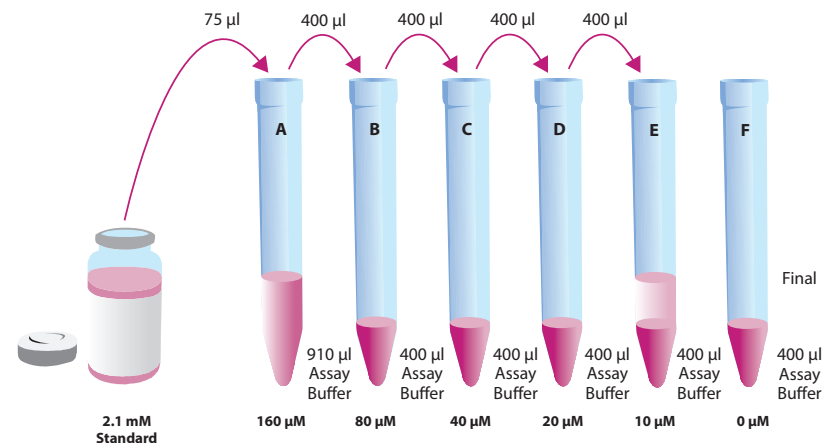
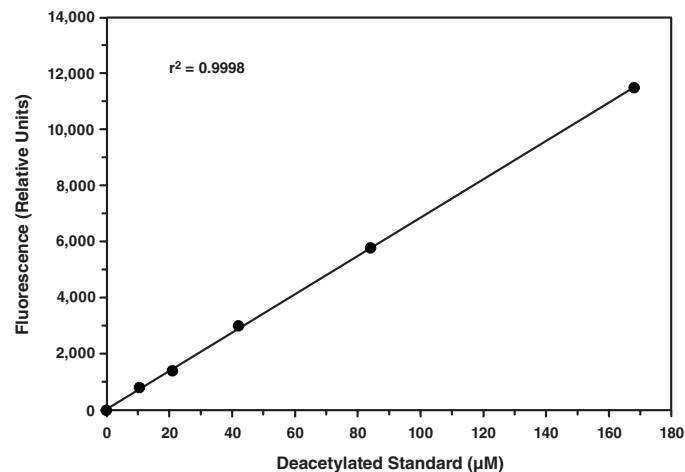

Figure 2. Preparation of standards
Figure 3. Typical standard curve
2. Plot the corrected fluorescence of the standards (from step 1 above) as a function of the final concentration of deacetylated standard from Figure 2, on page 13. See Figure 3, below, for a typical standard curve.